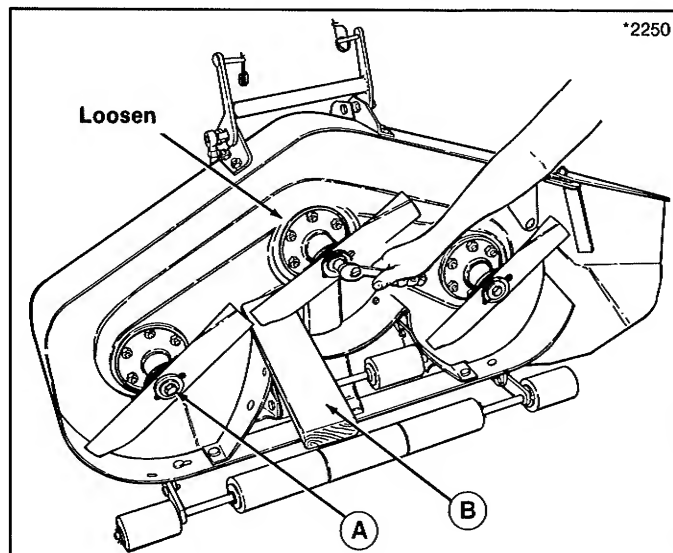

Figure 16.
1. To remove a blade, wedge a wood block between blade and housing to prevent rotation as shown in figure 16. Then, turn capscrew counterclockwise to remove.